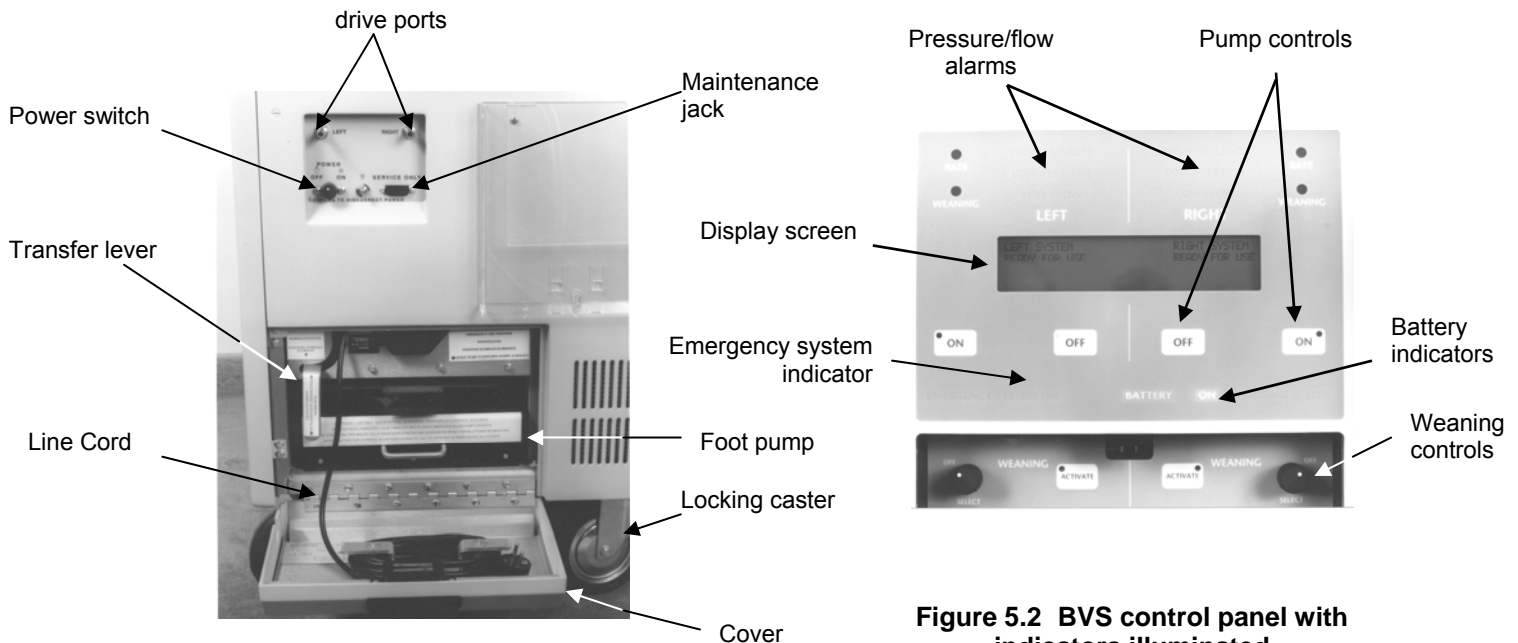

Figure 5.1 BVS console rear panel
- Open the rear cover (Figure 5.1), remove the line cord and plug into an outlet. (Check that the CHARGING indicator is lighted on the front panel.) Close the cover while routing the cord out through the side opening provided. Open the weaning door. Activate the console with the power switch on the rear panel. The system will automatically begin to run its self-test.